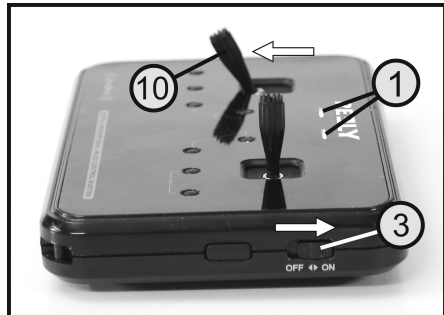

Figure 17
- 3 On/off switch (see also Figure 17)